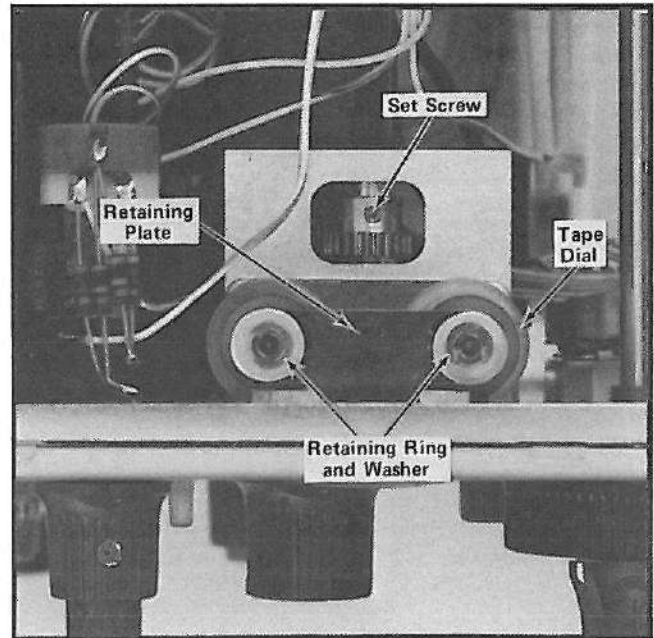

Fig. 4-1. Component locations for tape dial replacement or adjustment.
3. Using a sharp instrument (small screwdriver, etc.), remove both retaining rings from the posts. See Fig. 4-1.
2. Using an $.050$ Allen wrench, loosen the setscrew shown in Fig. 4-1.